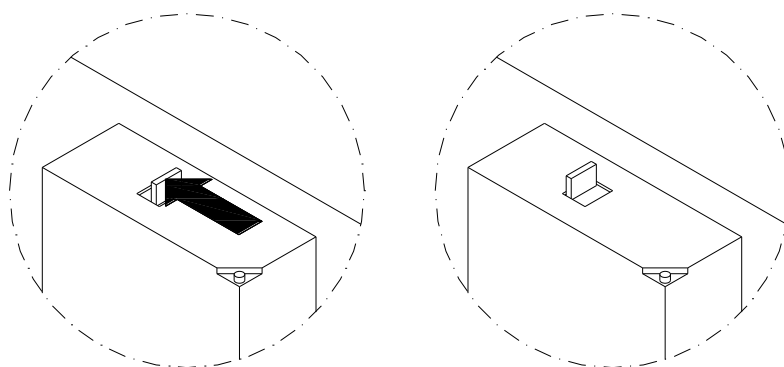

Figure 32 - Restoring the Monitoring Device
- restore the condition of proper functioning of the monitoring device as shown in Figure 32